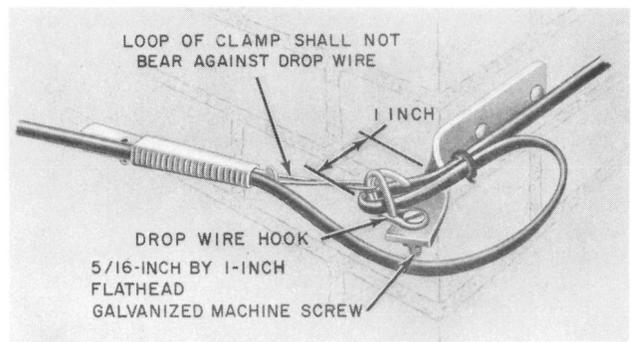

Fig. 3—Corner Bracket Equipped With Drop Wire Hook
**1.05** Drop wire hooks may be fastened directly to the bracket when the drop wires do not require an insulated attachment (Fig. 3).